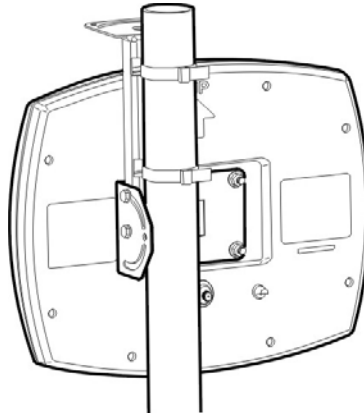

Figure 4.4: Pipe mounted DU
1. Feed the end of the hose clamp through the holes as shown in Figure 4.4: "Pipe mounted DU".